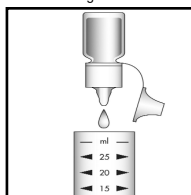

Figure 2
2. Add **5 drops** of A-9500 Activator Solution (fig. 2). Stir to mix the contents of the cup.